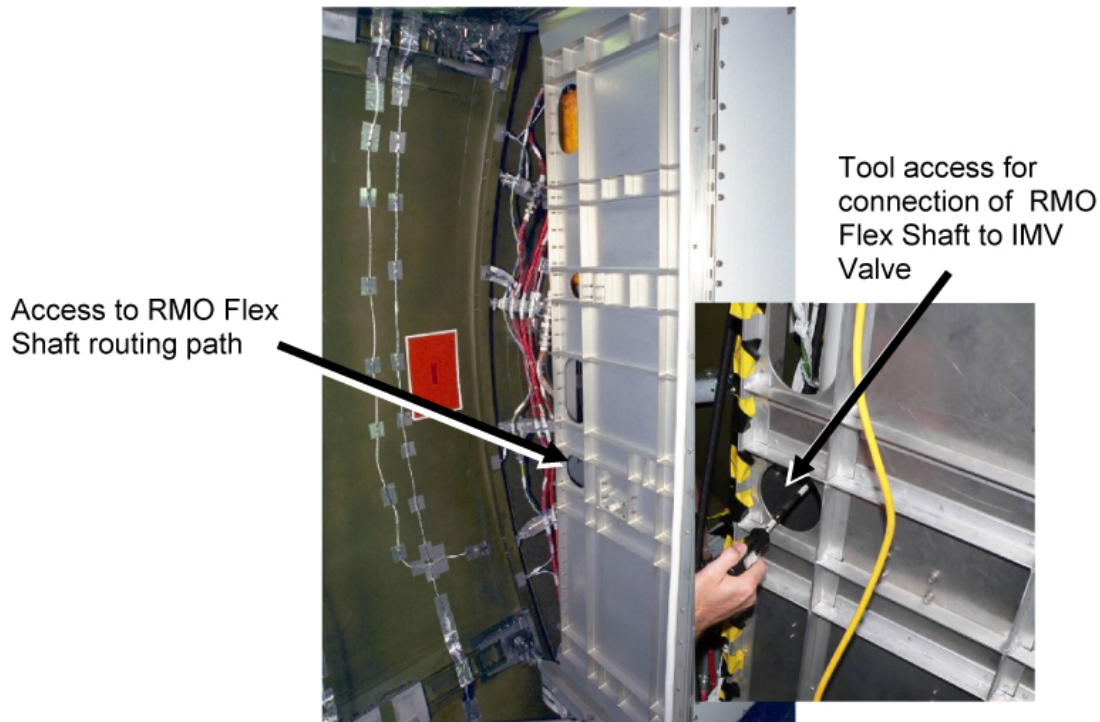

Figure 10. Access Holes on Aft Side of Port Midbay.
- 3.5 Position RMO Handle below new NOD1P3-01 Closeout Panel. Feed free end of RMO Flex Shaft between Node 1 Cabin Fan Wire Harnesses (W0307 and W0137). Using a second crewmember accessing midbay volume from aft and port sides, continue feeding RMO Flex Shaft around Node 1 Cabin Fan towards IMV Valve. Maintain RMO Flex Shaft bend radius > 8 inches. Refer to Figures 10 and 11.
- 3.6 Align RMO Handle with cutout in NOD1P3-01. Snug RMO Handle attachment fasteners (four) (Ratchet, 1/4" Drive; 5/32" Hex Head, 1/4" Drive). Refer to Figures 10 and 11.
- 3.9 Attach RMO Flex Shaft, fasteners (two) to IMV Valve. Tighten, torque to 39 in-lbs [Ratchet, 1/4" Drive; 10" Ext, 1/4" Drive; 6" Ext, 1/4" Drive; 4" Ext, 1/4" Drive; 5/32" Hex Head, 1/4" Drive; (10-50 in-lbs) Trq Wrench, 1/4" Drive]. Refer to Figure 10.